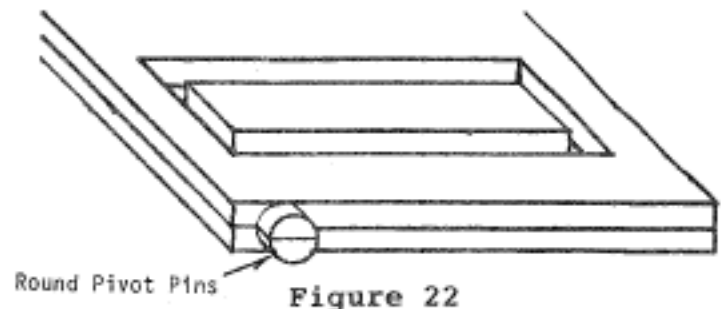

Figure 22
6. Sand or carve the pivot pins round so they will snugly fit into the holes in the pivot plates. Figure 22.